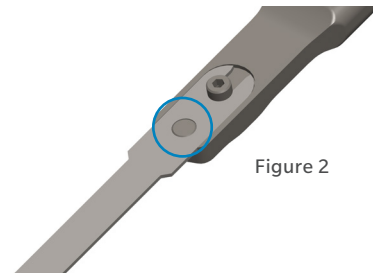

Figure 2
1. Insert the bone chisel (2) inside the handle (1) and make sure that the hole on the chisel is aligned on the pin of the handle as shown on Figure 2.